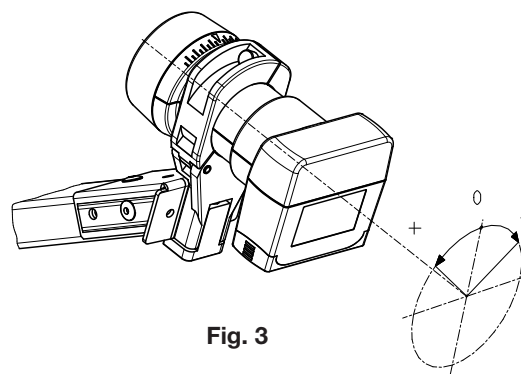

Fig. 3
4. Screw the feed system support firmly in place (Abb. 3).